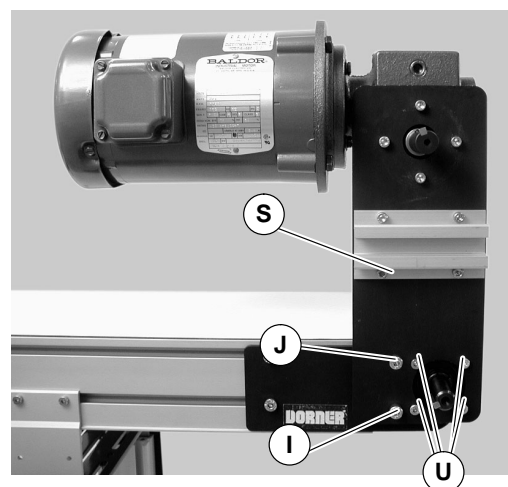

Figure 17
- d. Remove mounting screws (I, J and U of Figure 17) and remove drive package (S).